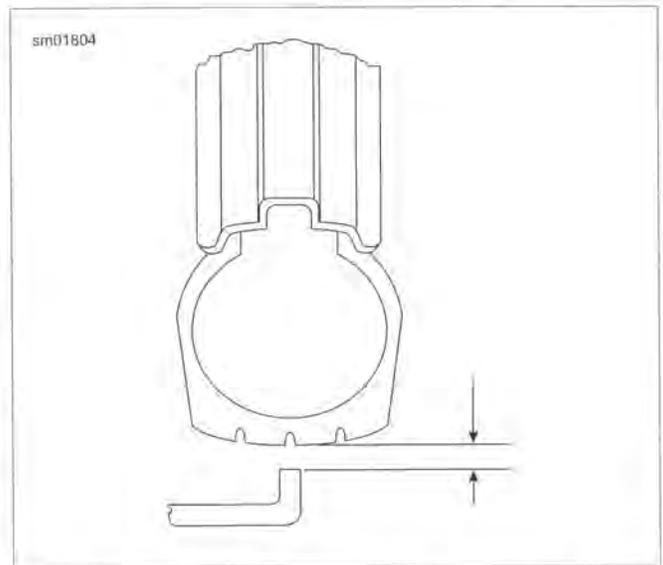

Figure 2-41. Checking Tire Radial Runout
2. See Figure 2-41. Turn the wheel on the axle and measure tire radial runout at the tread centerline.